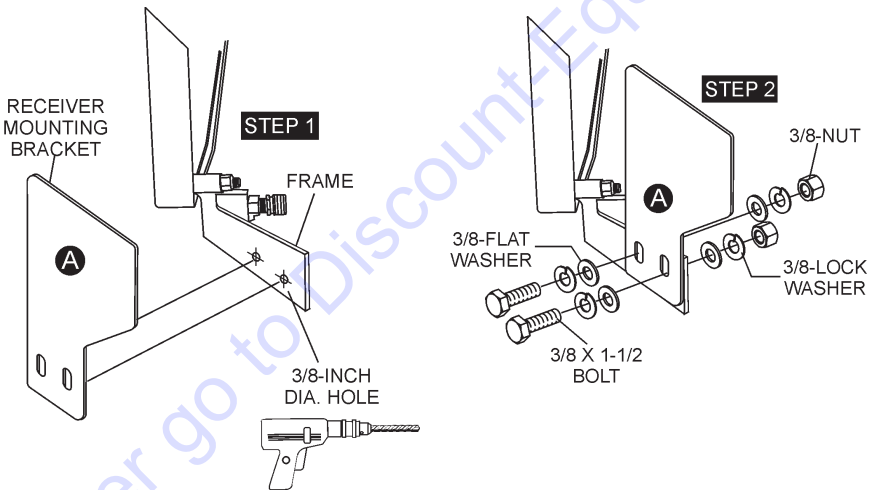

Figure 2. Mounting Bracket Installation
7. Install the radio receiver mounting bracket as shown in Figure 2.
1. Install the radio receiver mounting bracket to the frame of the C30HDZ as shown in Figure 2.
3. Drill two 3/8-diameter holes into the frame as shown in Figure 2. After both holes have been drilled, deburr each hole opening.
4. Using a 3/8 X 1-1/2 bolt (2), 3/8 lock washer (2), 3/8 flat washer (2) and 3/8 nut (2), secure the radio receiver mounting bracket to the frame.